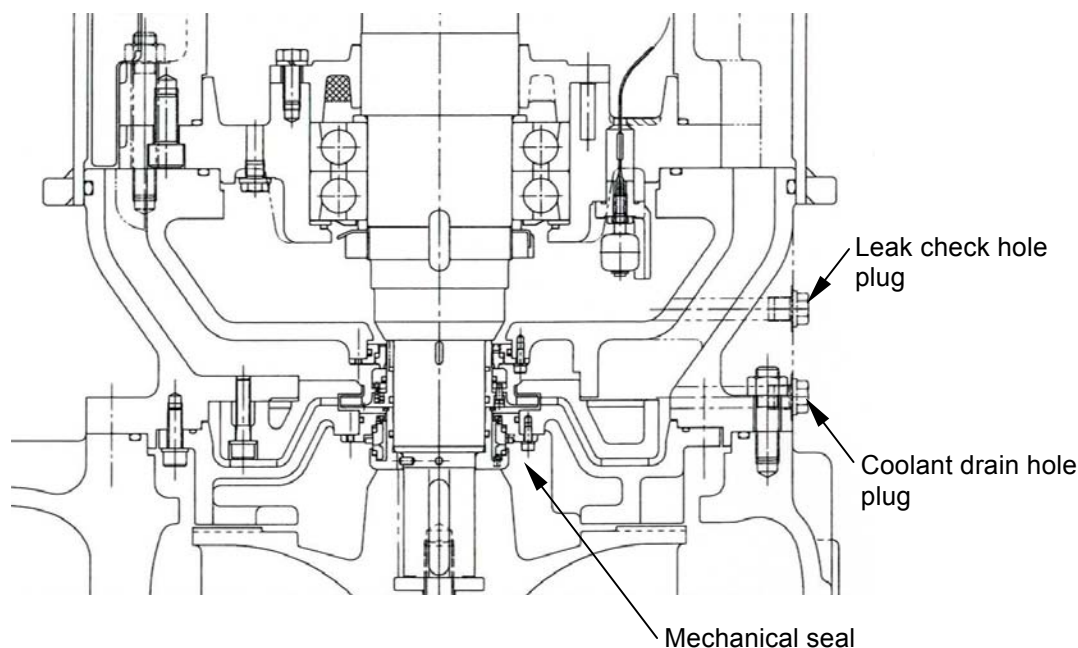

Fig. 20c
***ICS opt.** (3) Mechanical Seal (lower)
- (a) Unplug “Coolant drain hole” (shown in Fig. 20c) and “Air vent” (shown in Figs. 7c and 8c) and drain all internal coolant. (Refer to “Changing Coolant”, ***ICS opt.** Para 6.6).
Stand the pump in a vertical position, and unplug “Coolant drain hole” (shown in Fig. 20c) and “Air vent & full level check hole” (shown in Figs. 7c and 8c). Drain all the coolant from “Coolant drain hole”.